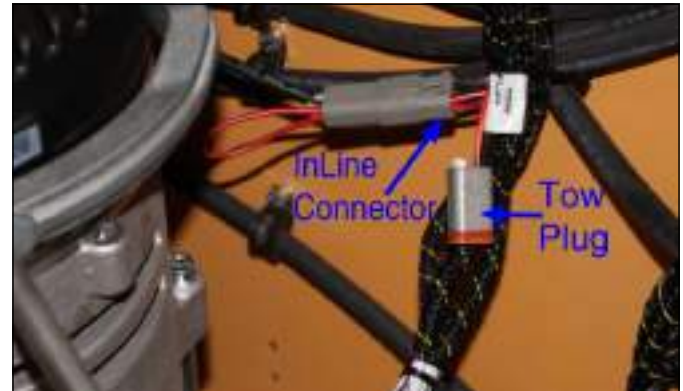

Figure 1-3 Tow Plug Connection
4. To easily disarm the braking system for towing, open the rear compartment on the forklift and disconnect the jumper connector and re-connect the connection to the "Tow Plug". **See Figure 1-3.**